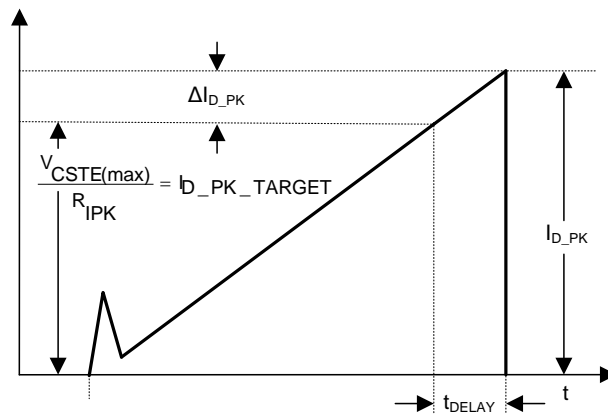

Figure 26. Propagation Delay Effect on the Primary Current Peak
During normal operation the on-time is determined by sensing the power FET current and switching off the power FET as this current reaches a threshold fixed by the feedback loop according to the load condition. The power FET is not immediately turned off and its current, that is also the primary winding current, continues to rise for some time during the propagation delay (t_{DELAY} in Figure 26). Keeping the reference for the PWM comparator constant, the value of the primary winding peak current depends on the slope of the primary winding current and t_{DELAY} . The slope of the primary current is proportional to the flyback stage input voltage (V_{BULK})
The current loop estimates the output current assuming the primary winding peak current is equal to the $I_{\text{PK_TARGET}}$ and compares this estimated current with a reference to obtain the current regulation. Considering, $I_{\text{D_PEAK}}$ is different from $I_{\text{D_PEAK_TARGET}}$ (see Figure 26) we need to compensate the effect of the propagation delay. The UCC28910 and the UCC28911 incorporate fully-integrated propagation-delay compensation that modifies the switching frequency keeping the output current constant during (CC) Constant Current Mode operation. This function is integrated in the controller and requires no external components. This feature keeps the output current constant despite input voltage variations and primary inductance value spread.